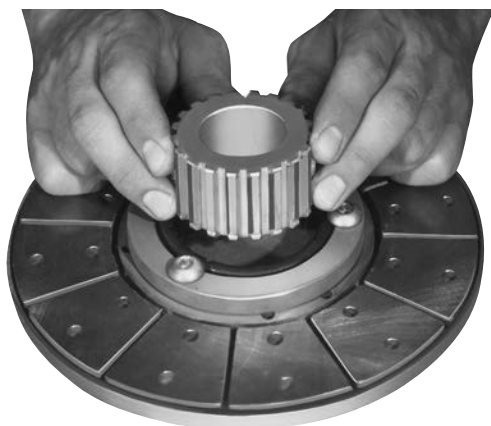

Figure 12
- b. Push the splined hub, with the pilot diameter down (refer to illustration drawings) through the autogap spring and splined armature adapter. (Figure 12)